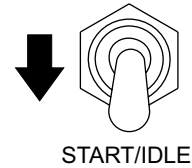

Figure 51. Engine Speed Control Switch Start Idle Position
- Place the engine speed control switch (Figure 51) in the Start/Idle position (down).